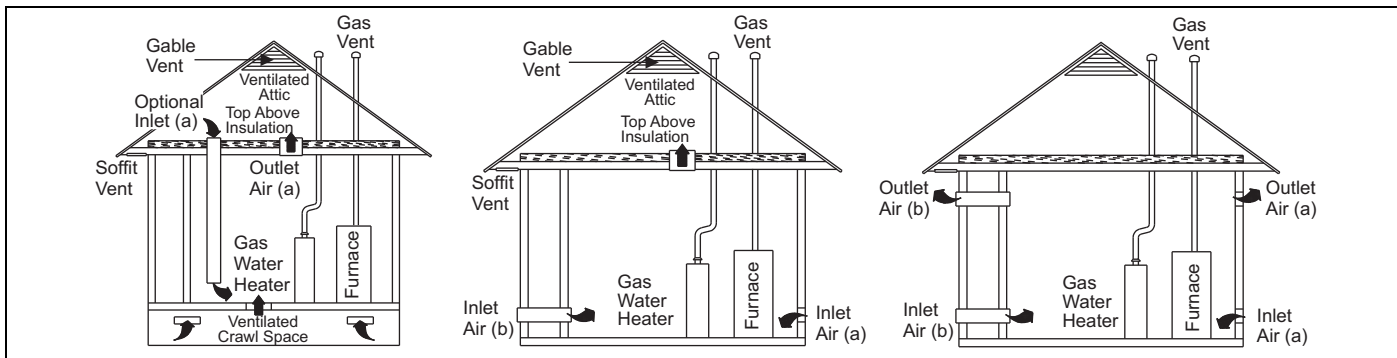

FIGURE 38: Outside and Ambient Combustion Air
3. **VENTILATED COMBUSTION AIR:** Combustion air is supplied through a PVC or ABS pipe that is connected to the PVC coupling attached to the burner box and is terminated in a ventilated attic or crawl space. The combustion air and the vent pipes are not terminated in the same atmospheric zone. Refer to Figure 38 for attic and crawl space termination. Only the combustion air intake may terminate in the attic. The vent must terminate outside.
Refer to Figure 38 for required attic termination for the combustion air intake pipe. For attic termination, use two 90° elbows with the open end in a downward position. Be sure to maintain 12" (30.5 cm) clearance above any insulation, flooring or other material.